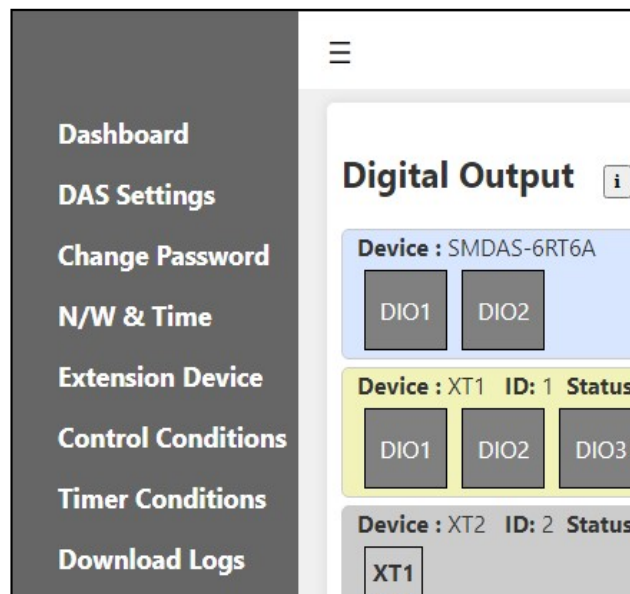

Figure 35: Navigation Menu Options
- **Navigation Menu:** The menu provides options for exploring different device settings. Clicking on the Navigation Menu opens a dropdown list of options, as shown in Fig 35, enabling user to navigate to various pages by selecting them.